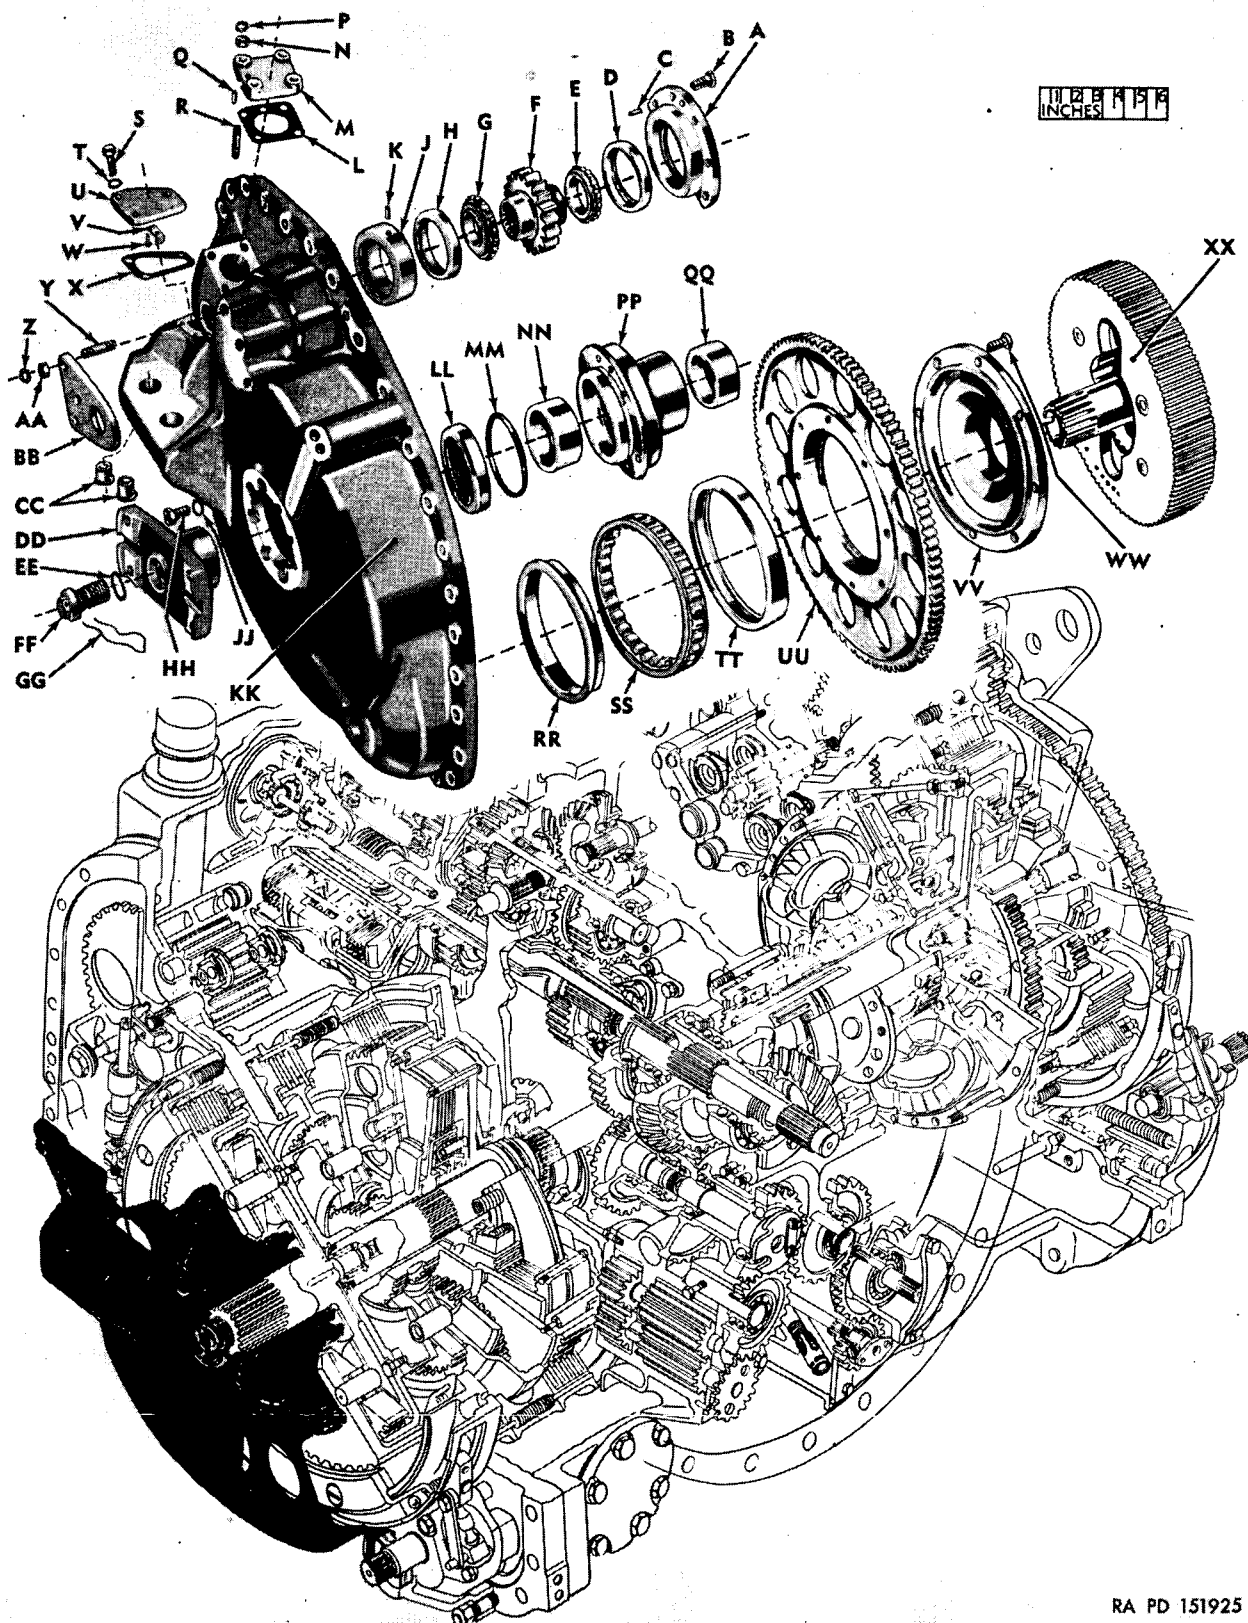

Figure 186. Right end cover assembly—exploded view.
a. GENERAL. The disassembly of the right end cover (fig. 186) is identical to that of the left end cover (par. 32) except for the steps that concern the converter lock-up governor and the lock-up governor relay valve.